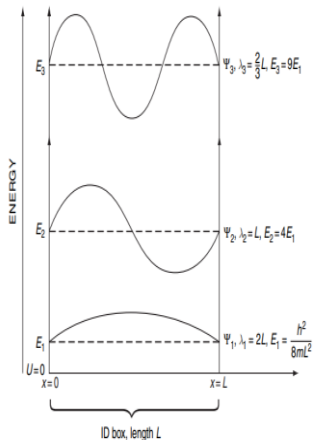

Figure 1.6 Energy level diagram also showing the form of some of the allowed wavefunctions for an electron confined to a one-dimensional potential well
- The allowed wave functions given by the Schrödinger equation then correspond to certain wavelengths as shown in Figure 1.6.